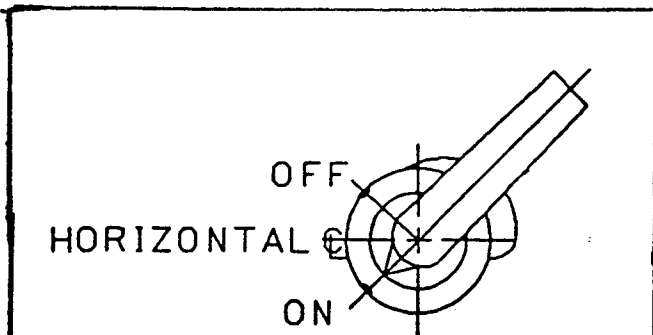

Figure 8. FRONT VIEW OF OPERATING HANDLE ON ENCLOSURE DOOR
10. Position operating handle on outside of enclosure door over holes drilled in Step 7. See Figure 8 for correct positioning. Secure handle to door using three  $1/4-20 \times 7/16$ " screws.